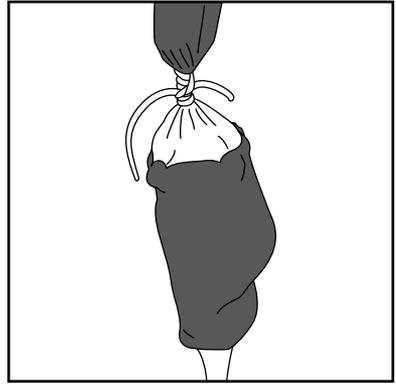

Figure 5
9. Pinch off the distal portion of the PVA bag and allow vacuum to evacuate air from carbon sleeve. Pour resin into the PVA bag reservoir, release pinched PVA bag and allow resin flow into material. String resin to wet out fibers, ensuring adequate saturation of the material around socket attachment ring. Eliminate any excess resin from lamination and tie off the PVA bag at the distal end of the model (see Figure 5).